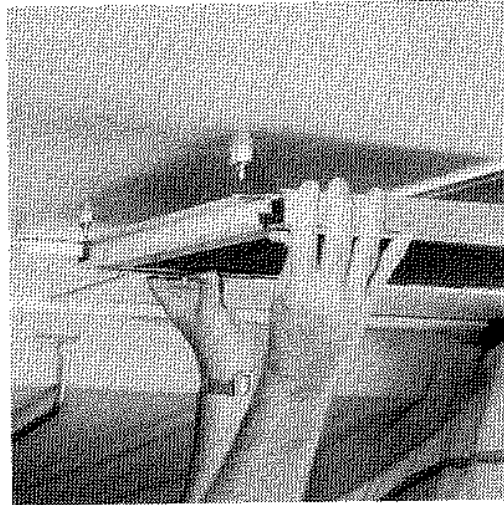

Fig. 6
10. Unlatch twist locks holding door to roof. Swing down the double hinged, self-storing screen door. Drop channel of lower edge of screen door over entrance door, guiding locating pins into door jamb extrusion. Fig. 6